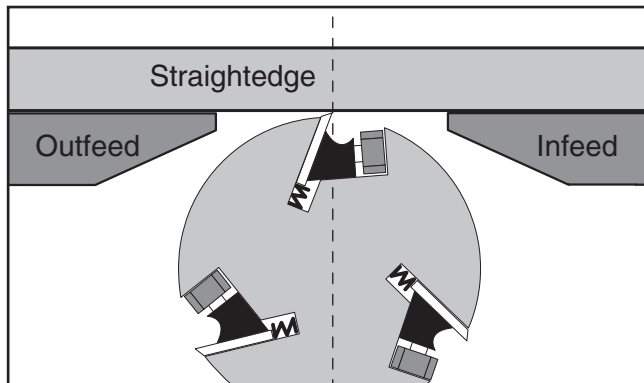

Figure 69. Infeed table adjusted even with outfeed table.
4. Adjust the infeed table until it is level with the outfeed table, as illustrated in **Figure 69**.